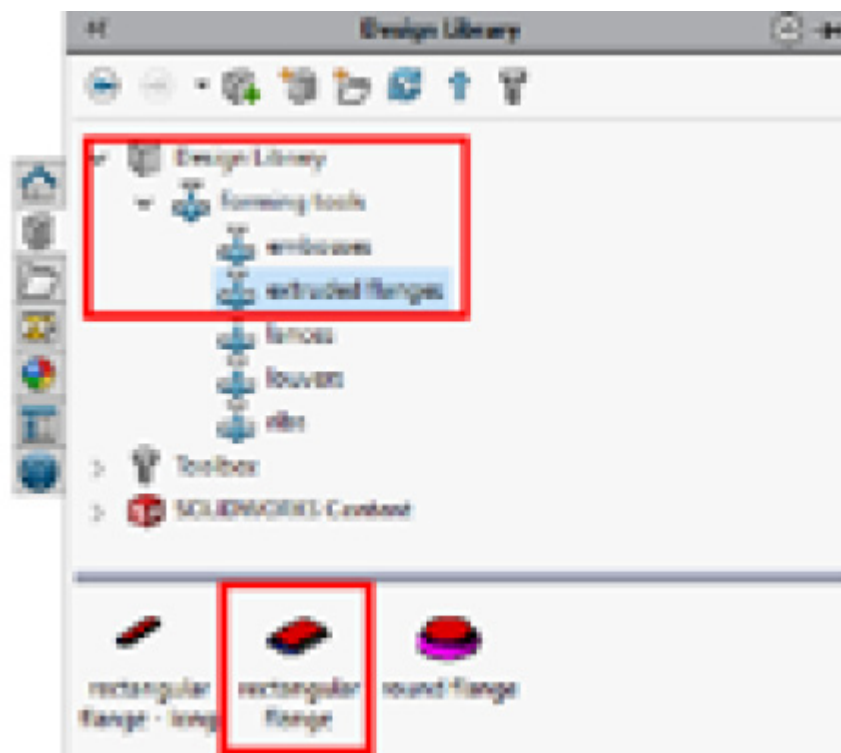

Figure 10.7: Finding an existing tool that is similar to your requirements
2. The first step in modifying Forming Tools is to find a similar tool to your requirements. For example, if you want an extruded flange with a cutout, expand the **extruded flanges** section and find the **rectangular flange** tool, as shown in *Figure 10.7*. Remember that yellow faces in the tool will bend the sheet metal and red faces will cut away material:
3. Next, we need to open the tool in order to modify it. Right-click on the preview of the **rectangular flange** tool (in the **Task Pane**—see *Figure 10.7*) and select **Open**. We will now be taken to the *part* document for the tool. (**Note:** You may receive a Write Access warning. This can be ignored as we will not be saving over the original *part* file.) The *part* can be edited in the same way as a normal model—for example, the extrude features can be adjusted in size by editing their underlying sketches or by left-clicking on the appropriate feature in the Graphics Area, then double-clicking any dimension and changing it.